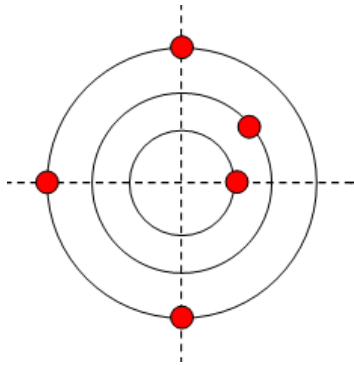

Figure 3 – Velocity vectors from the simulation.
- Using the **Ladybug Revolution** simulation (rotation_en.jar) to check your ideas and make corrections on Figure 3 and 4. Start the simulation by clicking on the plate and spinning it or setting an angular velocity. If there were any discrepancies with your expectations, discuss why you think your intuition went wrong.